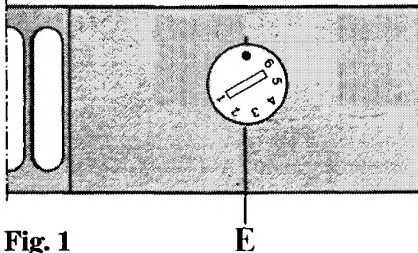

Fig. 1
A. Freezer controls (Fig. 1)
The temperature within the freezer is controlled by the thermostat situated at the top of the freezer (see Fig. 1).